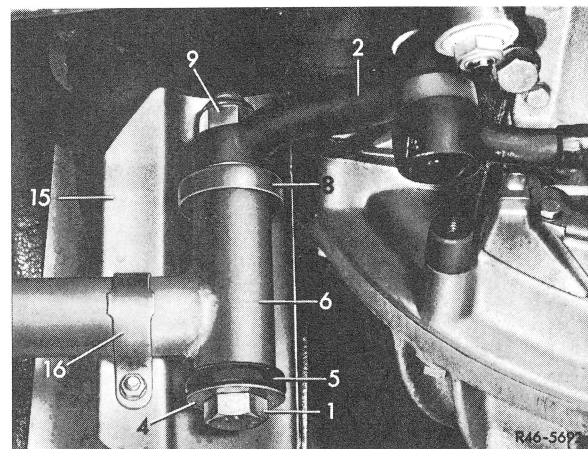

Fig. 1
- 1 Remove shield (15) from bearing (6) of intermediate steering lever (2) (Fig. 1).
- 3 Unscrew self-locking hex. nut (9) from hex. screw (1) of intermediate steering lever (Fig. 1).
- 4 Remove intermediate steering lever (2), washer (3), dust cap (8), and then hex. screw (1) with sealing washer (4) (Fig. 1 and 2).
10 Place intermediate steering arm (2) on hex. screw (1) in such a manner that offset faces downwards, or that forged-in code No. is shown below (Fig. 1 and 2).
15 Mount dust cap (8). Screw-on **new self-locking hex. nut** and tighten to 120 Nm (12 kpm) (Fig. 1 and 2).